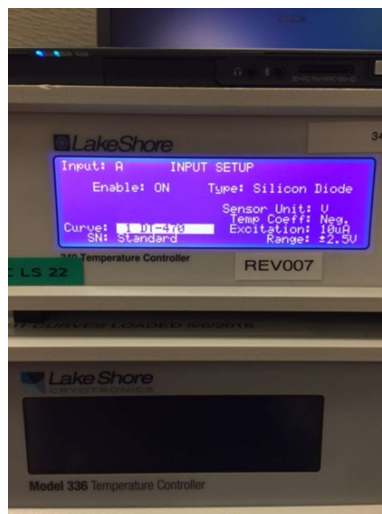

Figure 5
- 1.5 Using the enter key, select the curve (Figure 5).